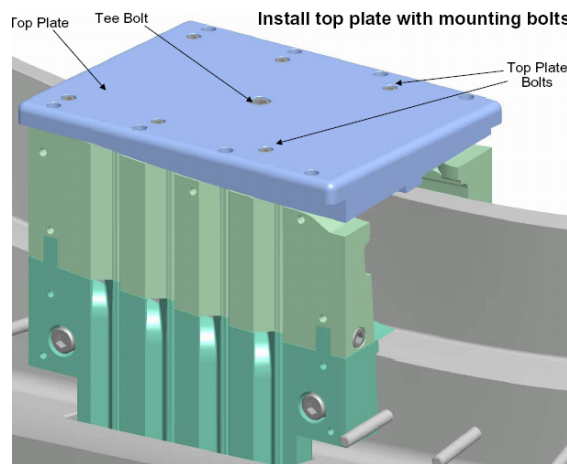

Figure 16- Install Top Plate
- 6.19.1.3 Install the Top Plate and secure in place with hardware. [**Figure 16- Install Top Plate**]